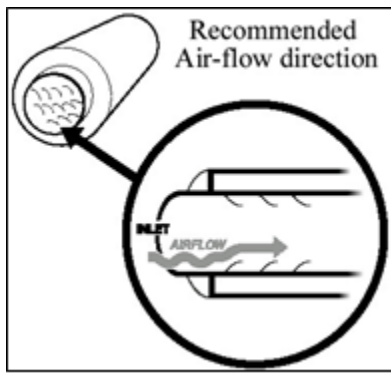

Figure 1
3. Install the **Muffler** over the required pipe securing it with the **Center Hang Tight™ Hanger** so that the exhaust will flow smoothly over the louvers. **Refer to Figure 1.**